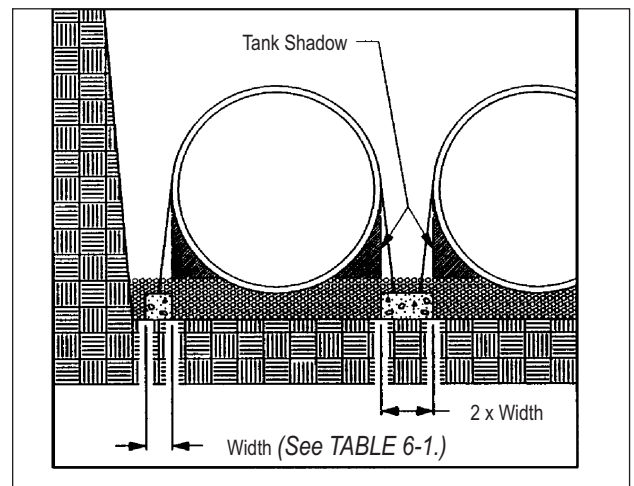

FIGURE 5-3
5.3.1.2. Always provide sufficient clearance to allow the deadmen to be set outside of the tank "shadow." *(See FIGURE 5-3.)*
6.2.8. Lay the deadmen in the excavation parallel to the tank and outside of the tank "shadow." (See FIGURE 5-3.)